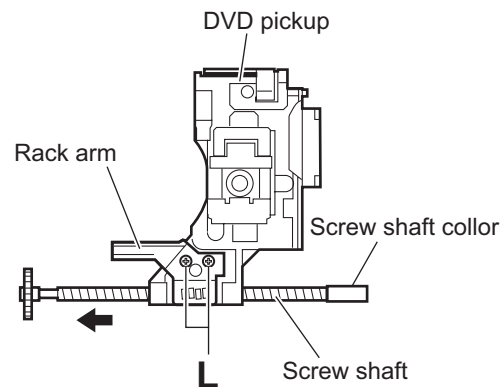

Fig.14
- (7) Remove the two screws **L** attaching the rack arm to the DVD pickup. (See Fig.14.)
- (8) Pull the screw shaft from the DVD pickup in the direction of the arrow. (See Fig.14.)
- (1) Attach the screw shaft to the DVD pickup and attach the rack arm with the screws **L**. (See Fig.14.)
- After attaching the screw shaft to the DVD pickup, attach the screw shaft collar to the screw shaft. (See Fig.14.)